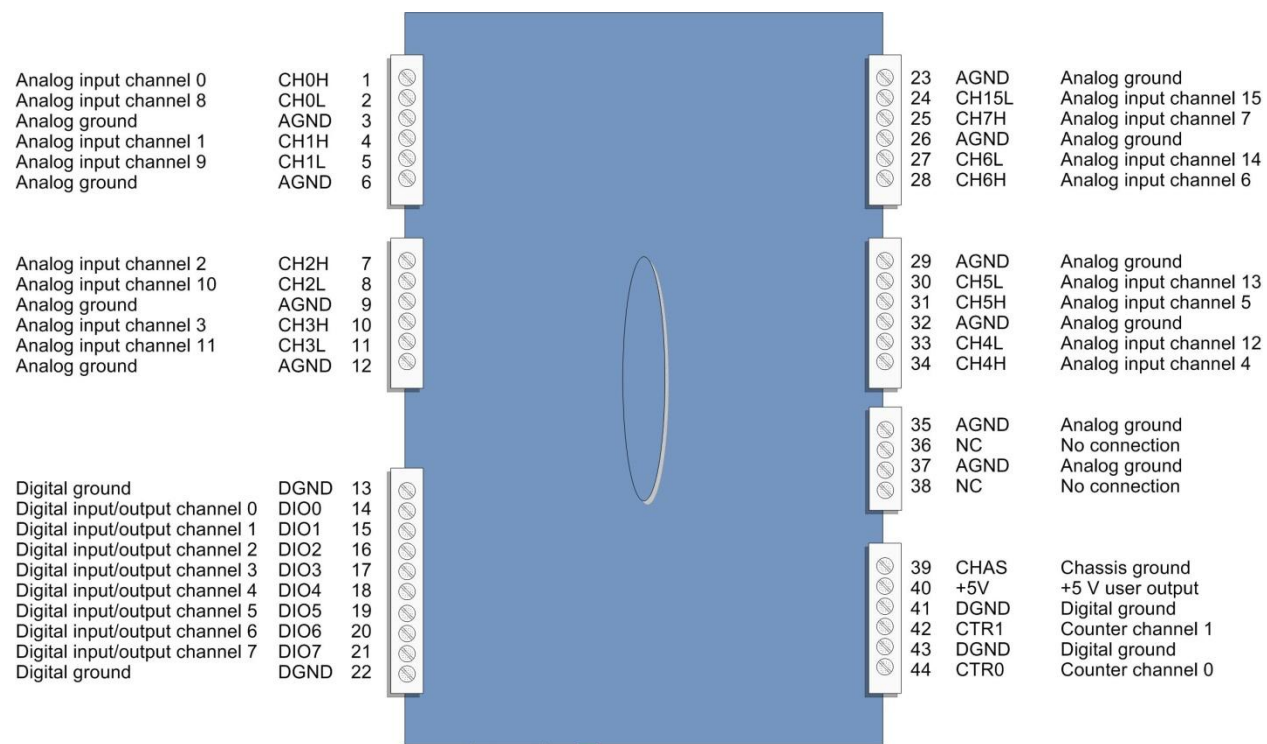
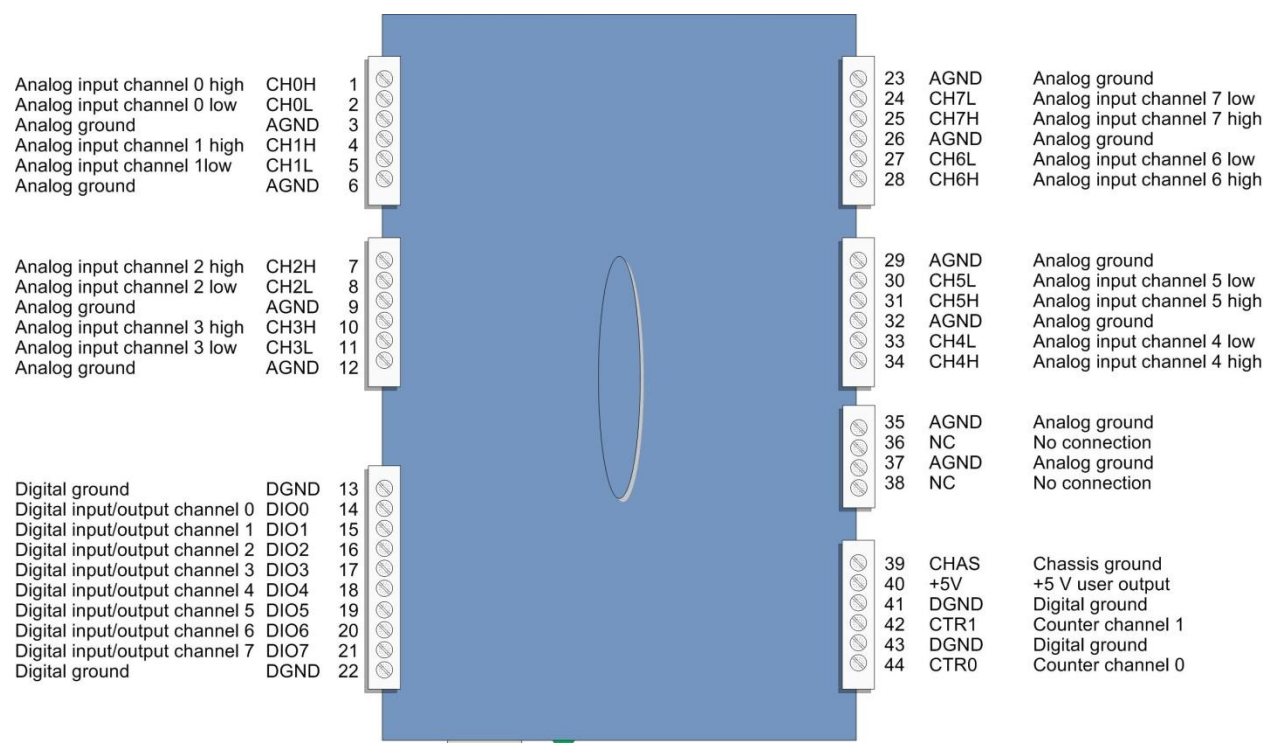

Figure 3. SE mode pinout
Figure 4. DIFF mode pinout
USB-2408 Series devices have two banks of screw terminals. Screw terminal functions for DIFF and SE modes are identified in Figure 4 and Figure 3.
- 16 SE (**CH0** to **CH15** – see Figure 3) or eight DIFF (**CH0H/CH0L** to **CH7H/CH7L**) analog input connections
Refer to Figure 3 on page 11 for the location of the SE inputs.
Refer to Figure 4 on page 11 for the location of the DIFF inputs.